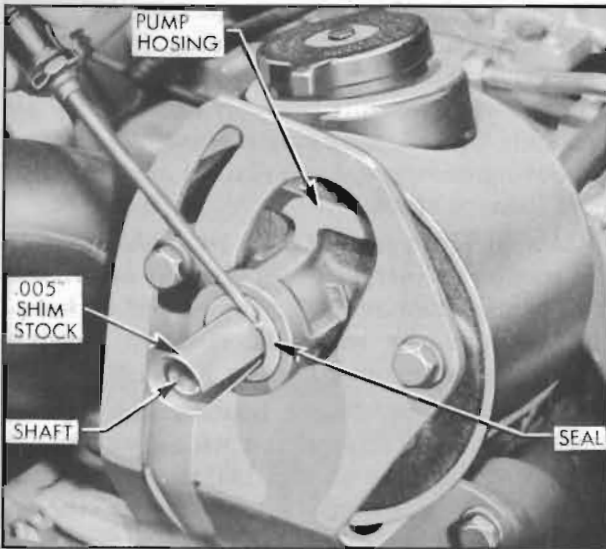

Figure 8-59—Removing Oil Pump Shaft Seal
6. Insert a piece of .005" shim stock (approximately  $2\frac{1}{2}$ " long) around shaft and push it past seal until it bottoms in pump housing. See Figure 8-59.
7. Remove seal by cutting metal body of seal with a sharp tool and prying out. See Figure 8-59. *Extreme care must be used to prevent damage to shaft and pump housing.*